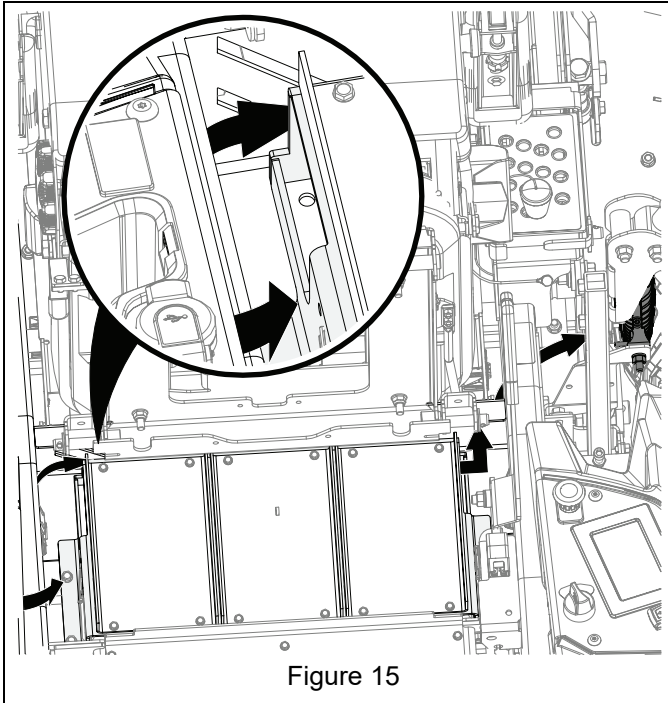

Figure 15
21. Reconnect speed control switch and USB port connectors and secure control panel with fasteners removed earlier. See Figure 15.
22. Route long headlight harness lead in front of left opening at front of mower motor controller bracket and out right front opening in front of bracket. Continue routing under steering sensor connector and forward of parking brake handle out to right headlight. See Figure 15.